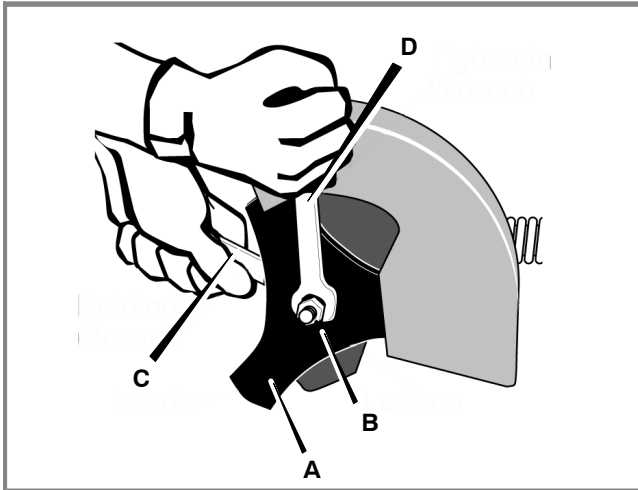

Figure 25: Blade Removal
NOTE: To remove or tighten the blade locknut, always use the method shown in Figure 25. First, secure wrench (C) onto the nut located behind the blade. Then, to remove or tighten the blade locknut, turn the wrench (D).